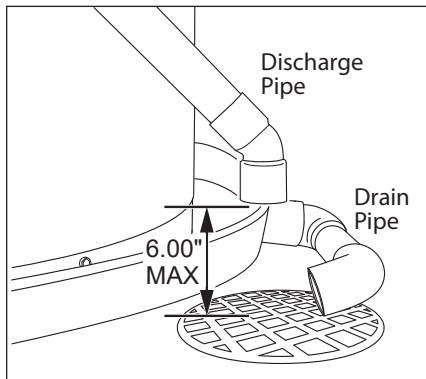

Figure 17 - The end of the T&P Relief Valve discharge pipe must stop no more than 6" (15 cm) above a floor drain or outside.
- 3 Terminate the discharge pipe a maximum of 6" (15 cm) above a floor drain, or outside the building (Figure 17). Do not drain the discharge pipe into the drain pan; instead pipe it separately to an adequate drain. In cold climates, terminate the discharge pipe inside the building to an adequate drain. Outside drains could freeze and obstruct the drain line. Protect the drain from freezing.